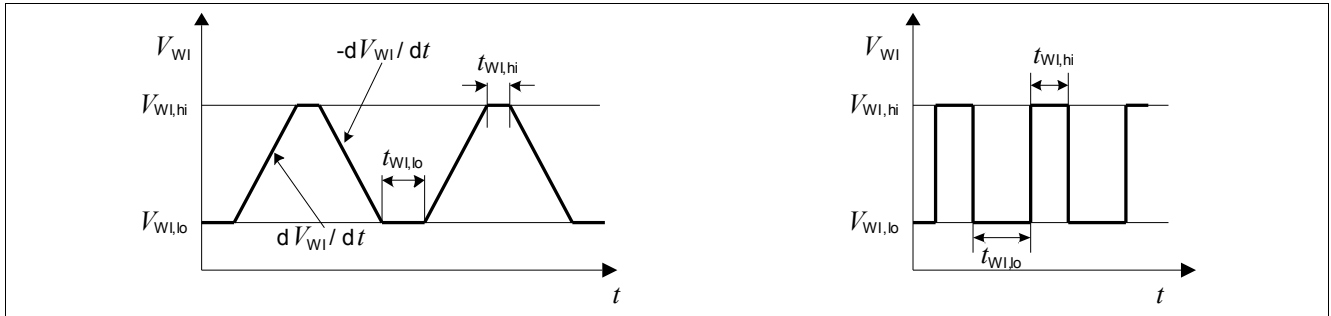
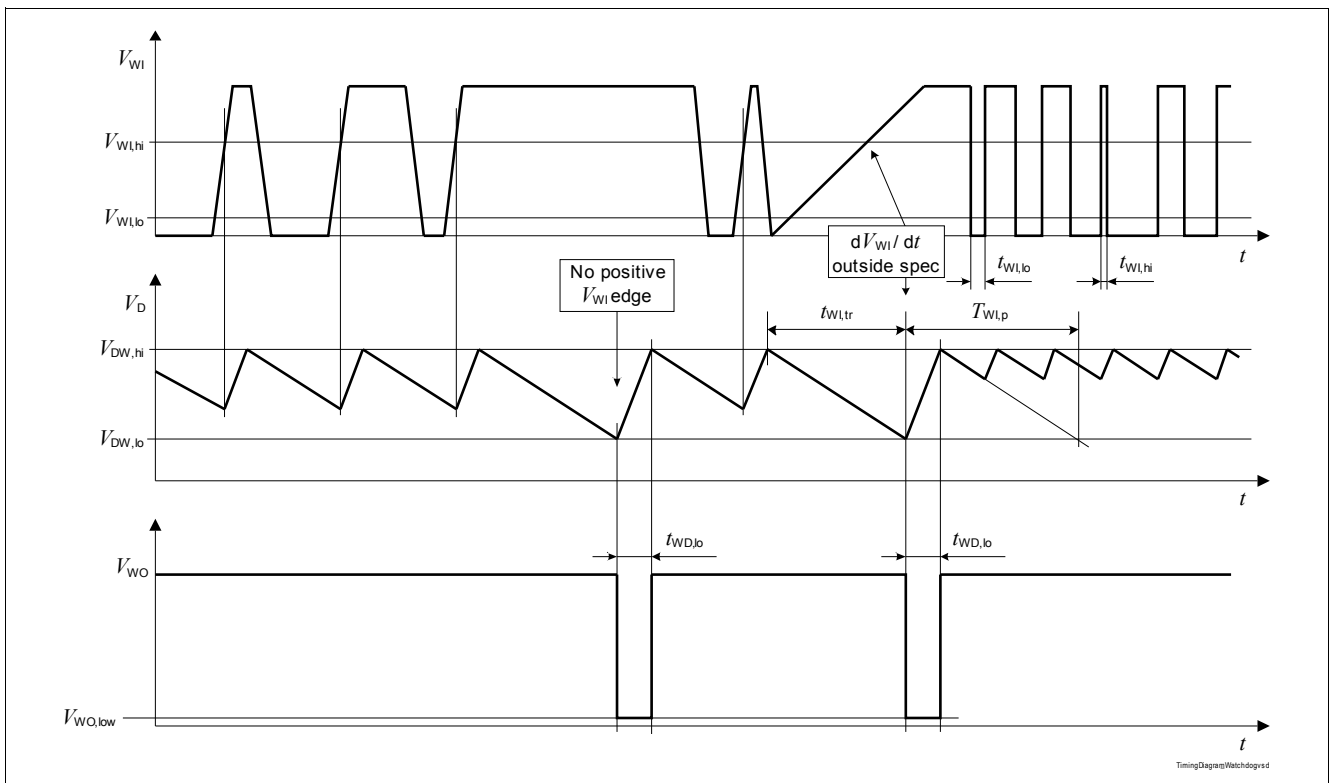

Figure 9 Test Pulses Watchdog Input WI
Figure 10 Timing Diagram Watchdog
The watchdog is triggered by an positive edge at the watchdog input "WI". The signal is filtered by a bandpass filter and therefore its amplitude and slope has to comply with the specification 9.2.11 to 9.2.14. For details on the test pulse applied, see Figure 9.
Positive edges at the watchdog input pin “WI” are expected within the watchdog trigger time frame $t_{WI,tr}$, otherwise a low signal at pin “WO” is generated. If a watchdog low signal at pin “WO” is generated, it remains low for $t_{WD,lo}$. All watchdog timings are defined by charging and discharging the capacitor C_D at pin “D”. Thus, the watchdog timing can be programmed by selecting C_D . For timing details see also Figure 10.
2) For details on the test pulse applied, see Figure 9.
| 1.1 | 2012-12-03 | <p>Page 23: Figure 9: Definition in Test Pulses Watchdog Input WI extended with low signal pulse length. Definition of frequency deleted according to the new specification of the watchdog input signal with high and low time.</p> <p>Page 23: Figure 10: Definition of watchdog input signal frequency deleted and definition for watchdog input low time added.</p> <p>Page 24: Specification for “Watchdog Input WI” corrected: Specification for watchdog input low time as replacement for watchdog input signal frequency. Slewrate specification moved to condition for watchdog input low time.</p> <p>Page 24: 9.2.14: Specification of minimum watchdog input low time for slewrates $\geq 1 \text{ V}/\mu\text{s}$.</p> <p>Page 24: 9.2.15: Specification of minimum watchdog input low time for slewrates $\geq 5 \text{ V}/\mu\text{s}$.</p> |